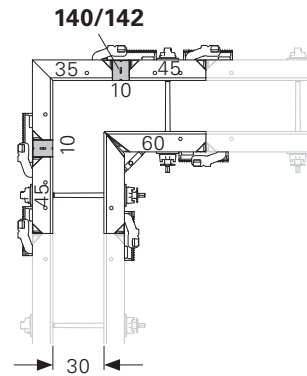

Fig. D2.05
- Wall thickness 30: Fig. D2.05 + D1.06a/c + D2.06b/d